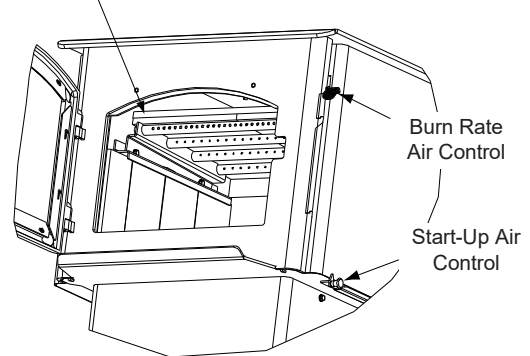
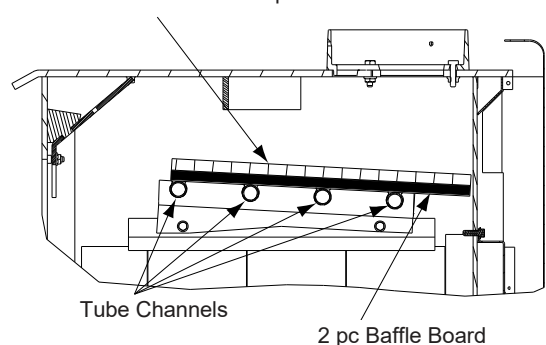

Figure 12.1
Figure 12.2
1. Confirm the baffle is correctly positioned. It should be even with the front tube and resting on all tubes (**Figure 12.1 and Figure 12.2**).